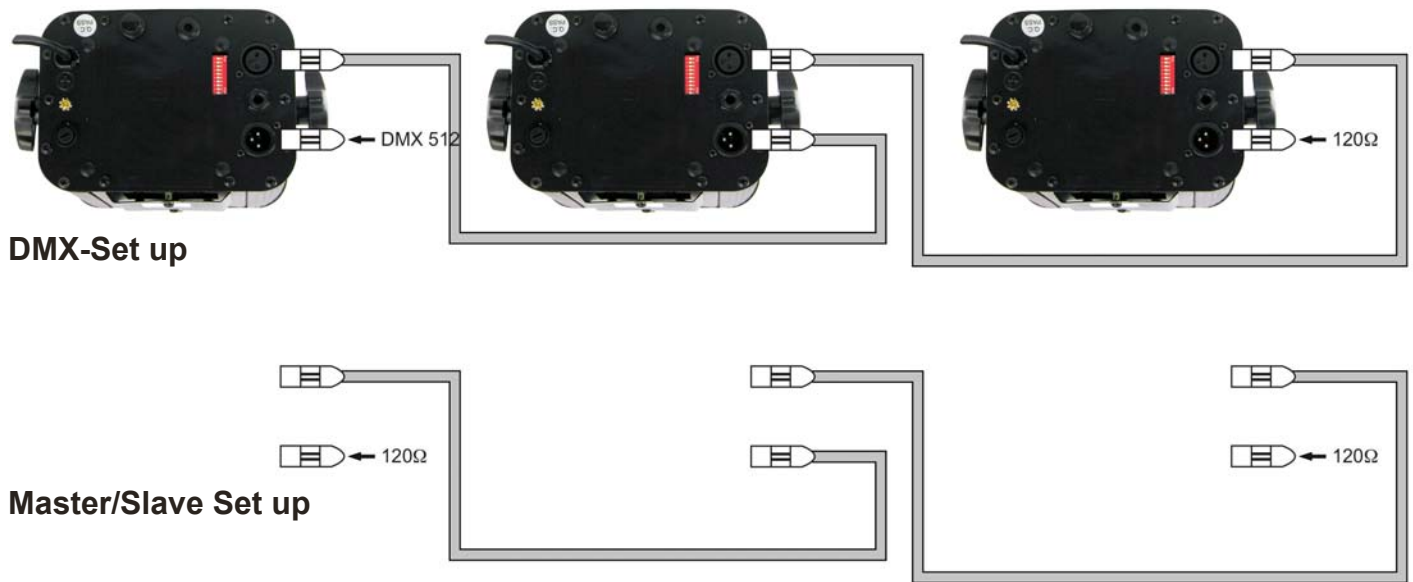

Fig. 5
3. Link the units as shown in (figure 5), Connect a DMX signal cable from the first unit's DMX "out" socket to the second unit's "in" socket. Repeat this process to link the second, third, and fourth units.